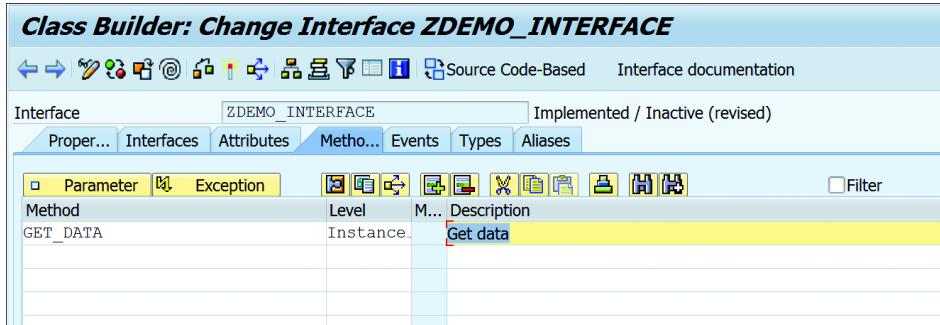

Figure 8.15 Class Builder: Change Interface Screen
2. On the CLASS BUILDER: CHANGE INTERFACE... screen (see Figure 8.15), maintain the components of the interface and click the ACTIVATE button in the application toolbar to activate.